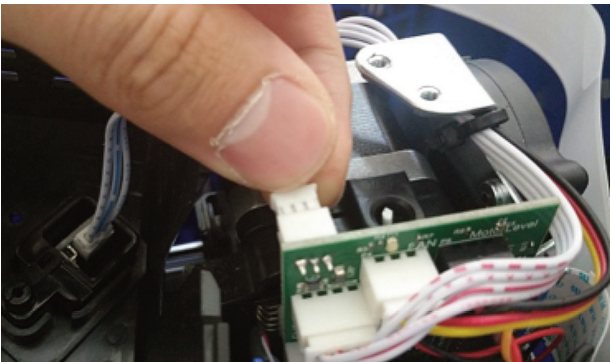

Figure 6: Runout switch being disconnected from extruder PCBA.
- f. Reconnect the filament runout switch from the extruder top cover to the circuit board. Refer Figure 6.